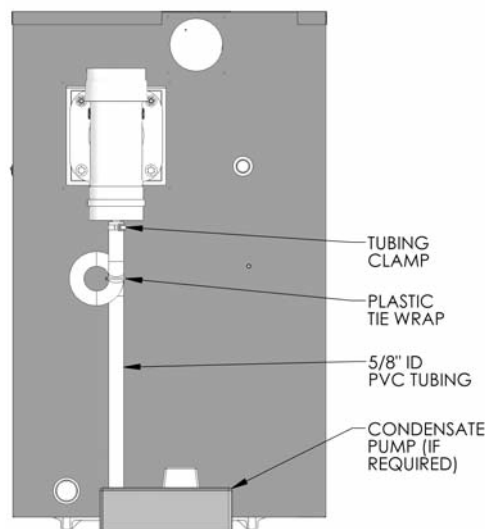

Figure 6.1: Condensate Drain with Trap
1. Connect 5/8" ID PVC Tubing to the drain fitting on the tee supplied with the boiler. Figure 6.1 shows this connection.